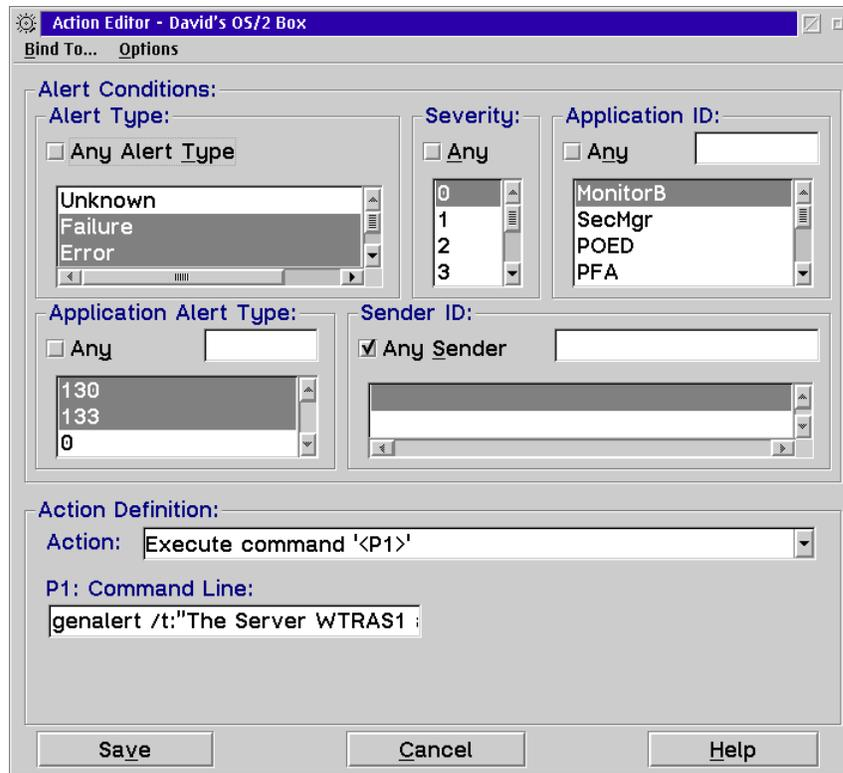

Figure 107. Defining the Action to Build the Dealer Message
4. Setup the actions window as in Figure 107 on page 148. These correspond with the value we determined appropriate on Page 145.
You can either put the GENALERT command in the Command Line field (as shown in Figure 107), or you can put the command in a batch file, and call the batch file instead.